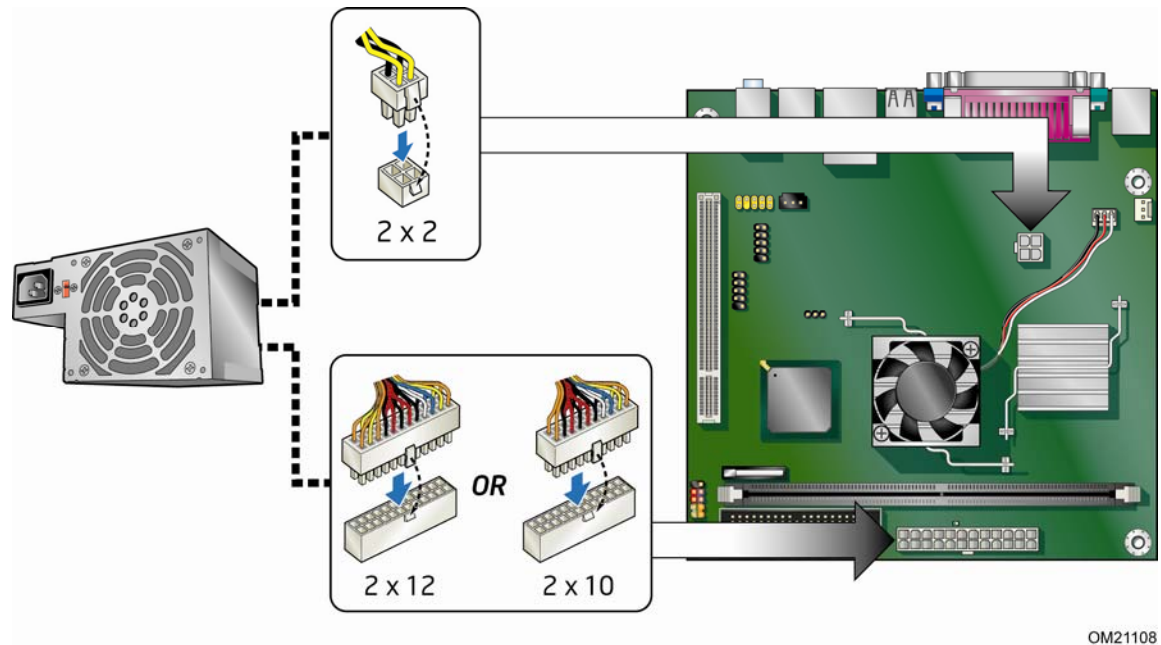

Figure 13. Connecting a 2 x 10 or 2 x 12 Power Supply Cable
Figure 13 shows the location of the power connectors.
2. Connect the 12 V processor core voltage power supply cable to the 2 x 2 connector (Figure 13).
3. Connect the main power supply cable (2 x 10 or 2 x 12) to the 2 x 12 connector (Figure 13).